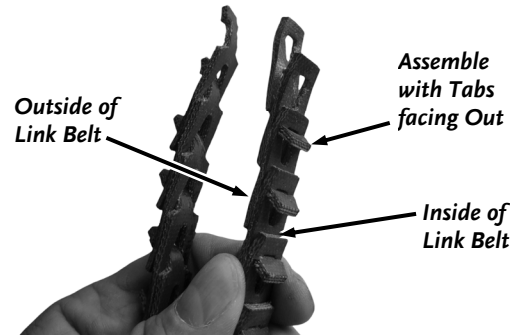

Figure 23
1. Turn the Belt inside out so the inside Tabs are facing out (**Figure 23**).